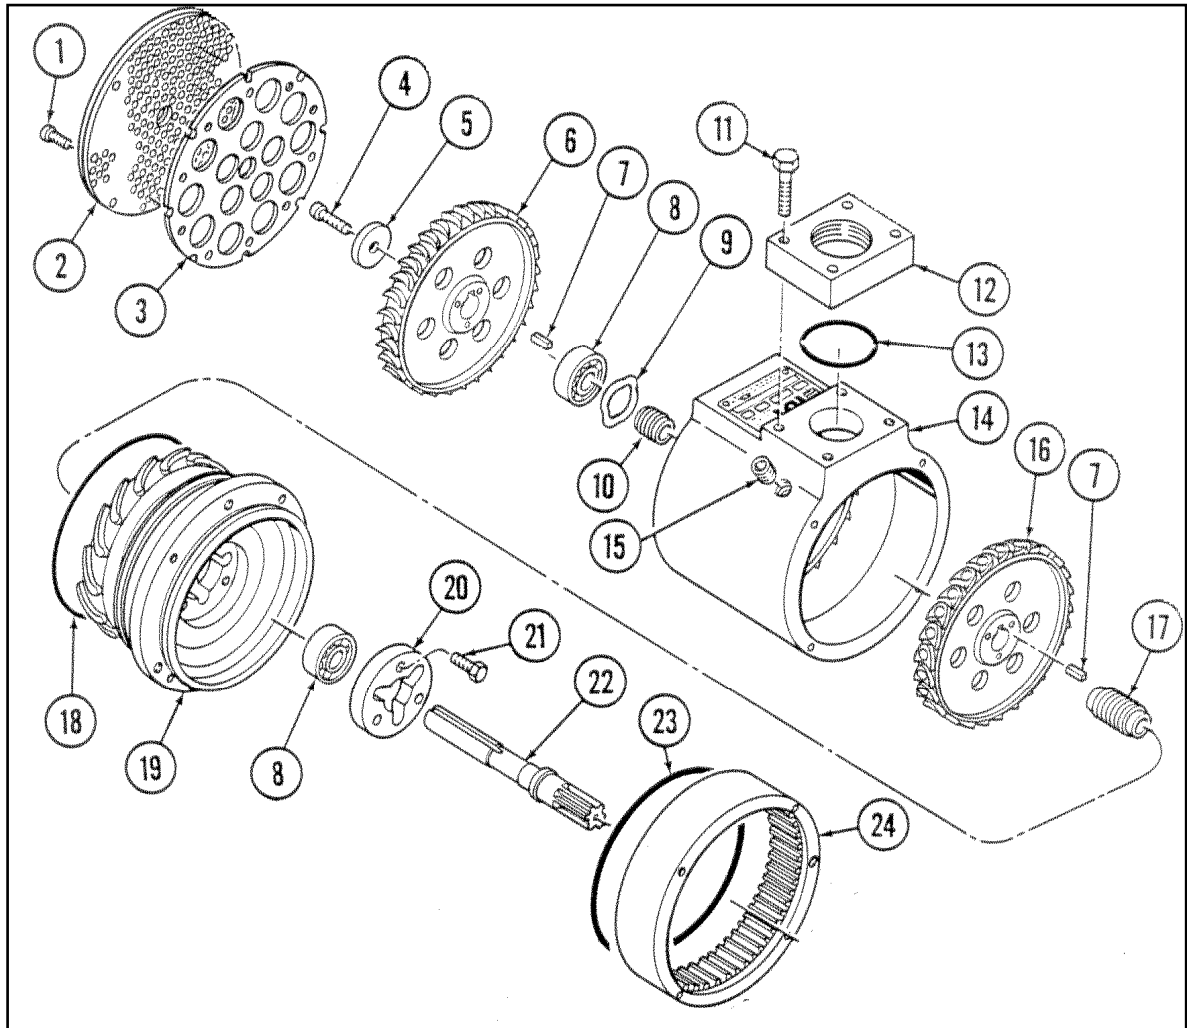

Figure 3. Turbine Housing Assembly
The Turbine housing assembly, refer to figure 3, consists of a stage one (16) and a stage two (6) turbine rotor mounted on sun gear shaft (22). The front bearing (8) is secured by a retainer plate (20) and the aft bearing is pre-load by a spring washer (9).